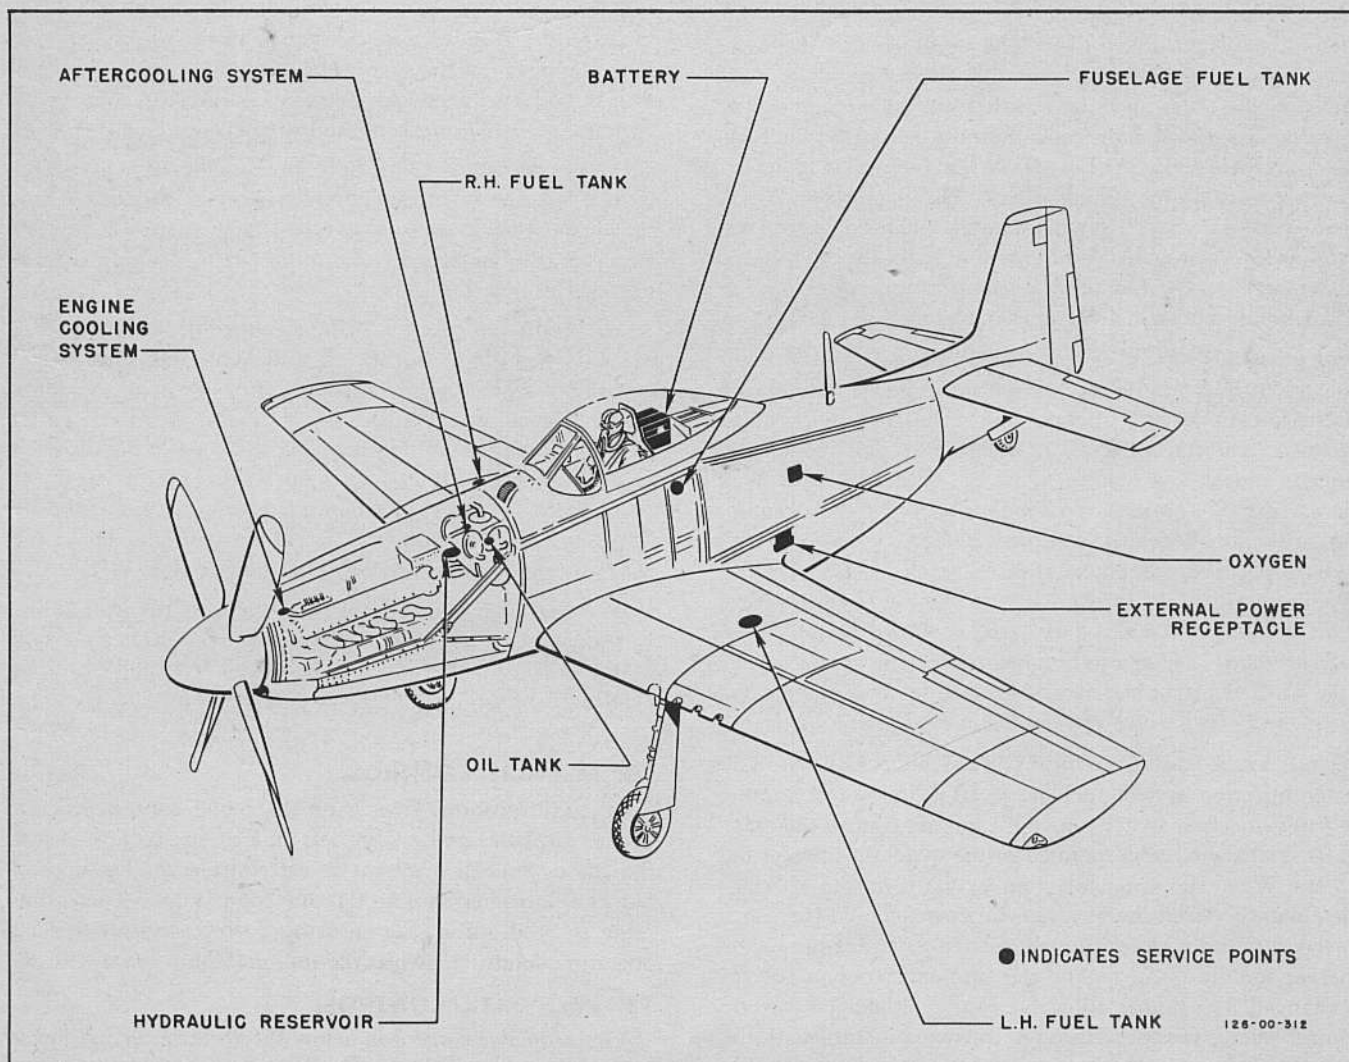

Figure 5—Interior Arrangement
d. See that external power supply (if available) is connected. (See figure 5.)